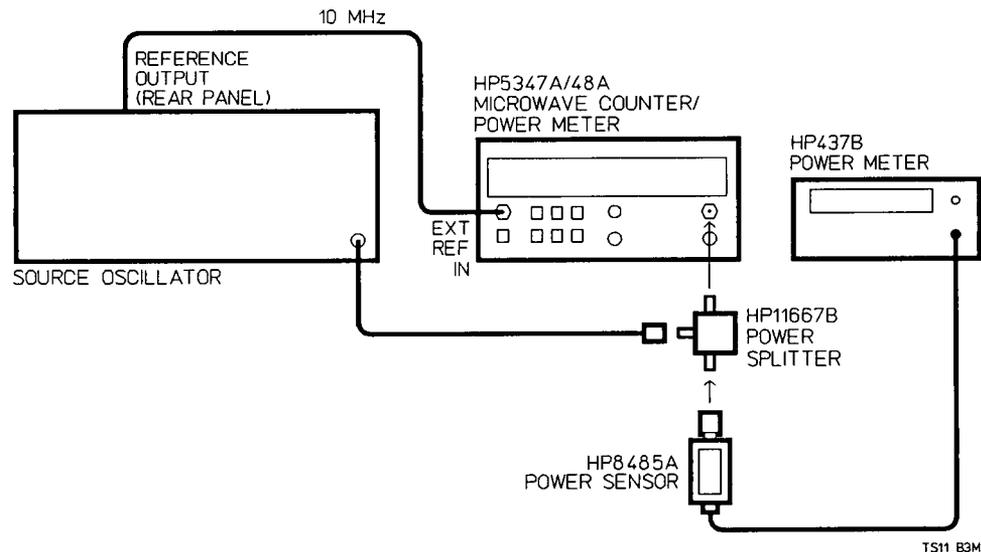
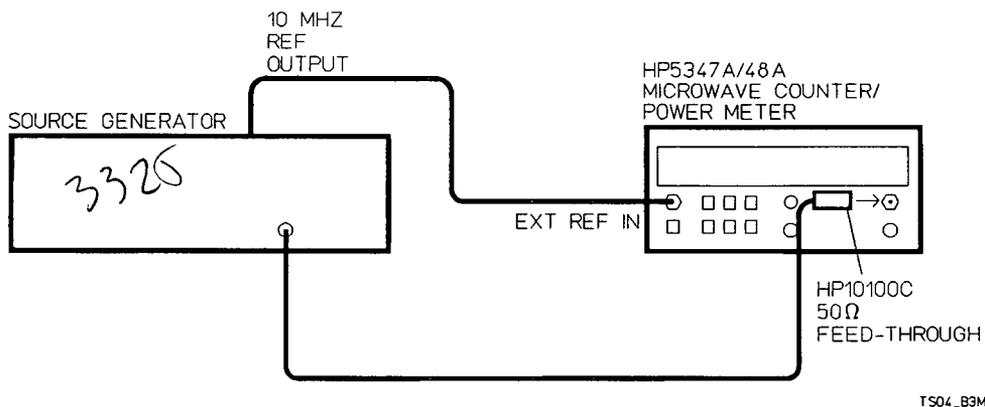

Figure 4-5. INPUT 2, 50 MHz-525 MHz Test Setup
Figure 4-6. INPUT 2, 10 Hz-10 MHz Test Setup
Description: This test is in two parts to check both the high frequency measuring capability of the 50Ω input impedance and the low frequency measuring capability of the $1M\Omega$ input impedance of INPUT 2. In Part I, the HP 5347A/48A is set to the 10 MHz-525 MHz range, 50Ω impedance, and a 25 mV rms (-19.3 dBm) signal is applied to INPUT 2. The source oscillator is set to selected frequencies and the HP 5347A/48A is checked for proper counting. Next, the HP 5347A/48A $1M\Omega$ impedance for the lower frequency range is checked. Since the same test setup in *Figure 4-5* with the addition of a 50Ω feedthrough is used to perform the 80 MHz check, the 80 MHz check is performed before the 10Hz-50MHz check. A 25 mV rms (-19.3 dBm) 80 MHz signal is applied to INPUT 2 through a 50Ω feedthrough, and the HP 5347A/48A is checked for proper counting. In Part II, the test setup is changed to *Figure 4-6* to test the 10 Hz-50 MHz range.
1. Connect the equipment as shown in *Figure 4-5*.
1. Using the test setup in *Figure 4-5*, connect the HP 11667B to INPUT 2 of the HP 5347A /48A via a 50 Ω feedthrough (HP 10100C).
1. Connect the equipment as shown in *Figure 4-6*.